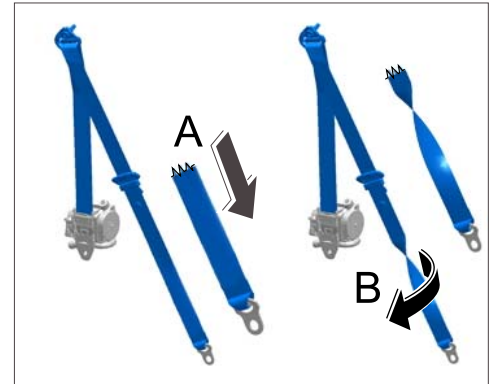

Figure 40
- 10.5.1 Guide the belt at the left of the door sill ⇒ *Figure 40-A-* and turn the seat belt mount 180 degrees (clockwise) ⇒ *Figure 40-B-*.